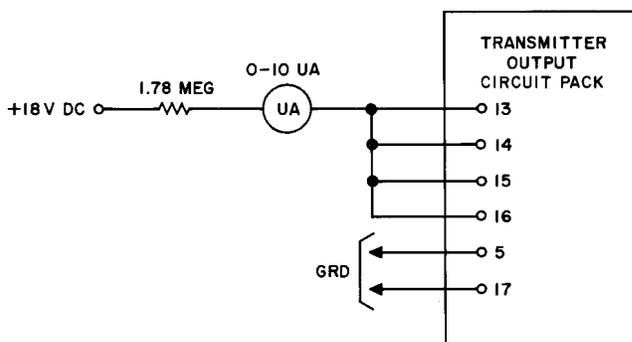

Fig. 35A — Transmitter Output Test
(2) The resistance between screw terminal 4 and the circuit pack plug terminal 20 shall be 2940 ohms (± 5 percent).
(3) Insert a strap between terminals 1 and 4.
6.07A Diode Leakage Test: Connect ground to terminals 5 and 17. Connect +18.0 (± 0.5) Vdc in series with 1.78-meg resistor to terminals 15, 16, 13, and 14 as shown in Fig. 35A. The current drawn from the +18 volt supply shall be less than 0.2 uA dc.